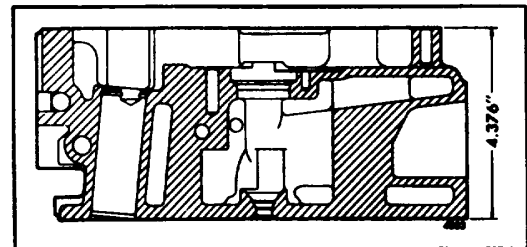

Fig. 4. - Minimum Distance Between Top and Bottom Faces of Cylinder Head
- c. If the cylinder head is to be refaced, remove the injector tubes prior to machining. Not over .020" of metal should be removed from the fire deck of the cylinder head. The distance from the top to the bottom (fire deck) of the cylinder head must not be less than 4.376", as shown in (Fig. 4).